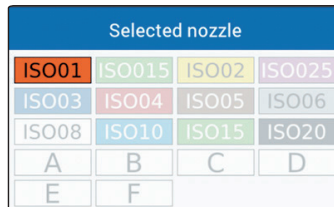

Fig. 245
- Select a nozzle from the list (Fig. 245). With this data indicate which nozzles are installed on the boom spraying points.